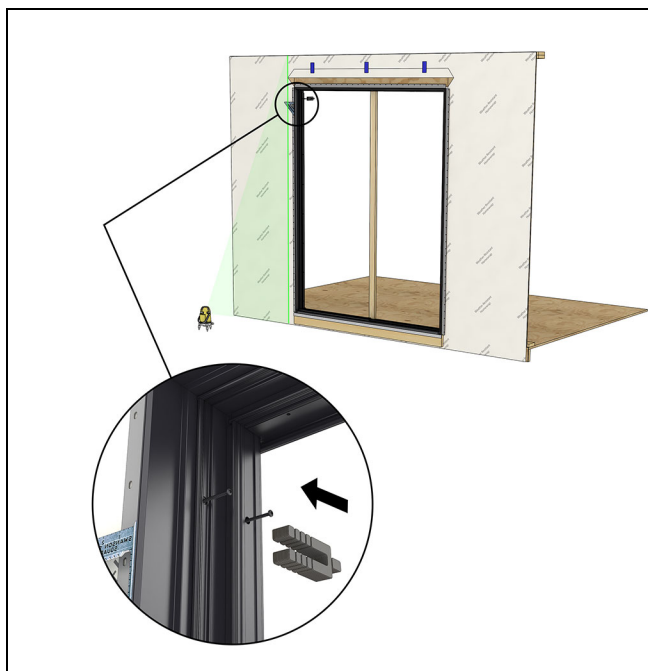

Figure 47
3. Apply shims and adjust, then fasten near the top with a #10 x 3" Torx (T20) screws provided. See Figure 47.